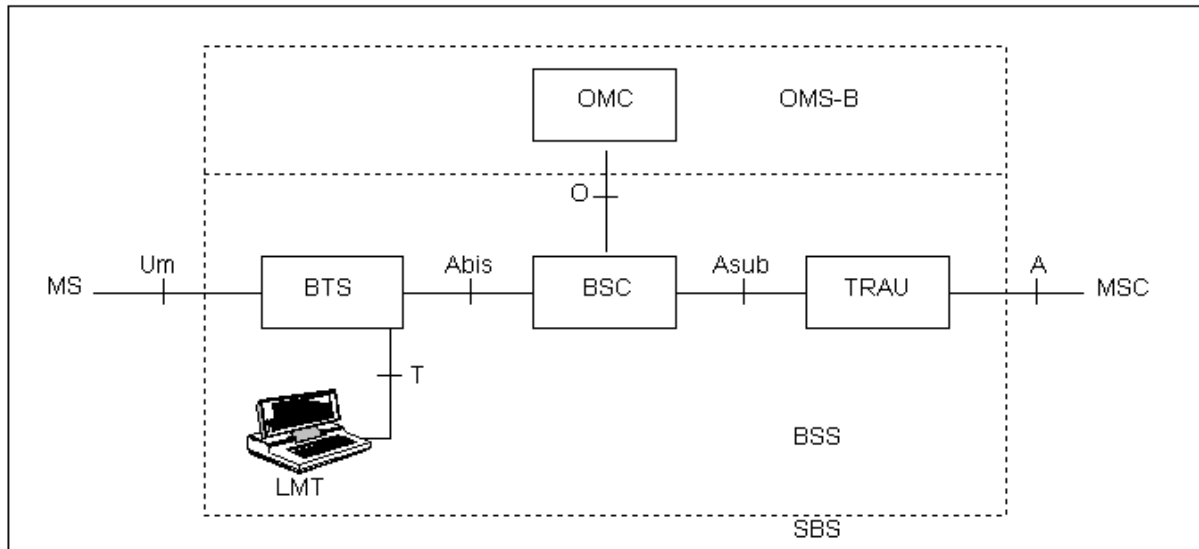

Fig. 1.1 BSC, BTS and TRAU
The Siemens Base Station (SBS) provides the connection of traffic and signalling channels between the Mobile Services Switching Center (MSC) and the Mobile Station (MS) in GSM900 and DCS1800 PLMNs (see Fig. 1.1).